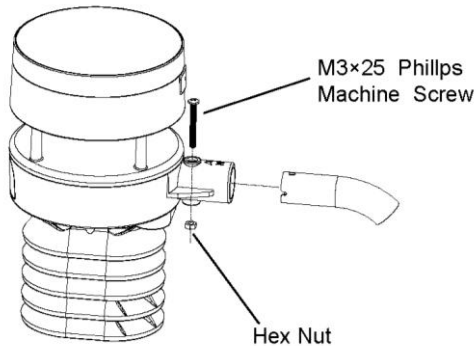

Figure 8: Sensor package mounting diagram 5-3
3. Attaching the arm tube to the Ultrasonic Sensor as Figure 8.